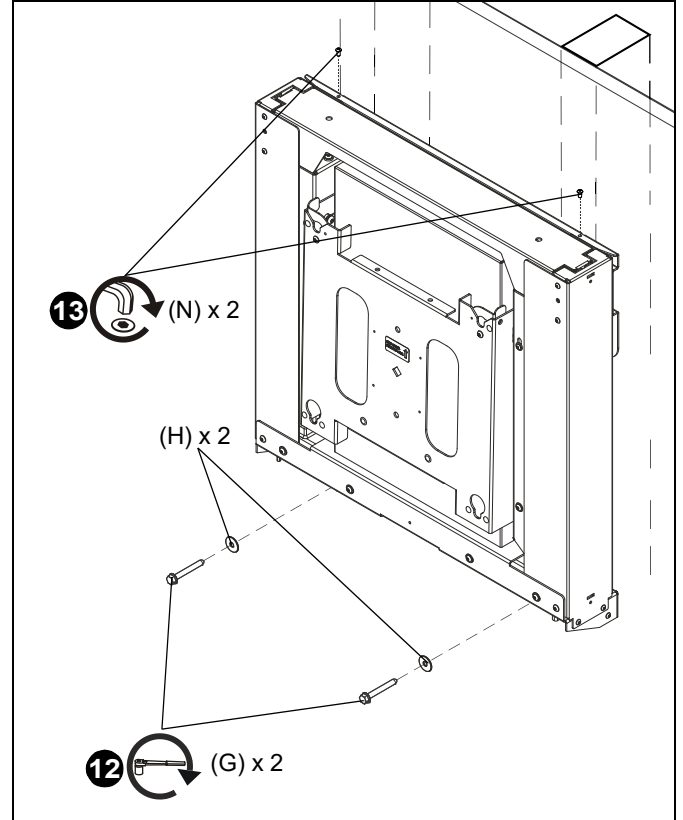

Figure 11
12. Hang wall mount back onto top bracket and install two 5/16 x 2 1/2" hex head cap screws (G) through two 5/16" washers (H), lower mounting holes on mount and into concrete anchors. (See Figure 11)
13. Use two #10-24 x 1/2" button head cap screws (N) and 1/8" hex key (R) to secure mount to wall. (See Figure 11)